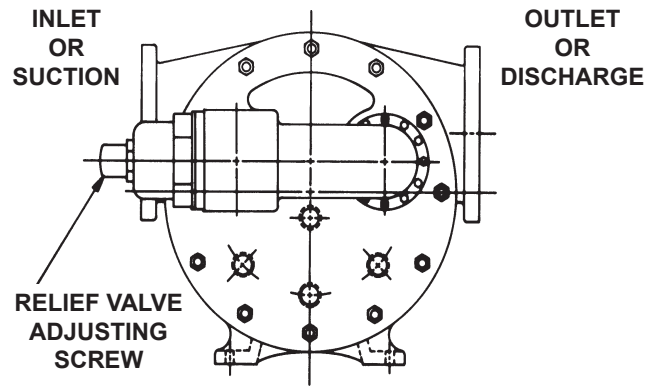

FIGURE 2
4. Relief valve adjusting screw cap must **always** point towards suction side of pump. If pump rotation is reversed, remove pressure relief valve and turn end for end. **Refer to Figure 2.**